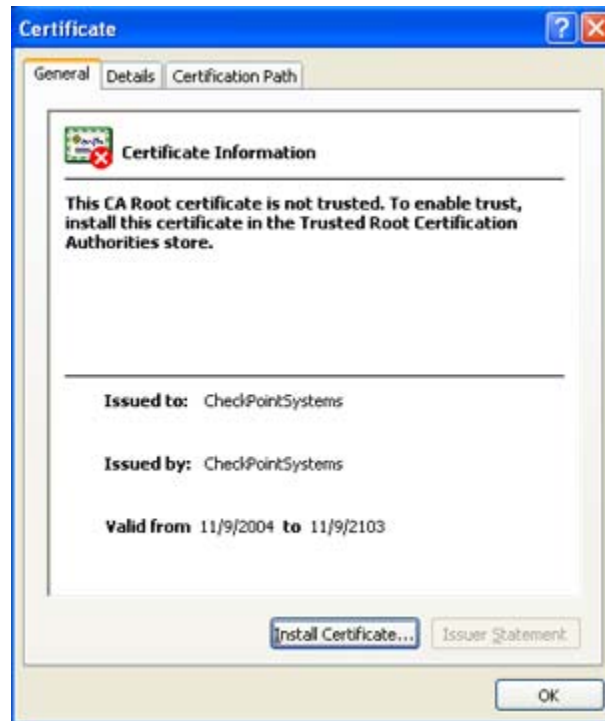

Figure 5.1 Certificate window
- 4 Click **Install Certificate** (Figure 5.1). The Certificate Import Wizard displays.